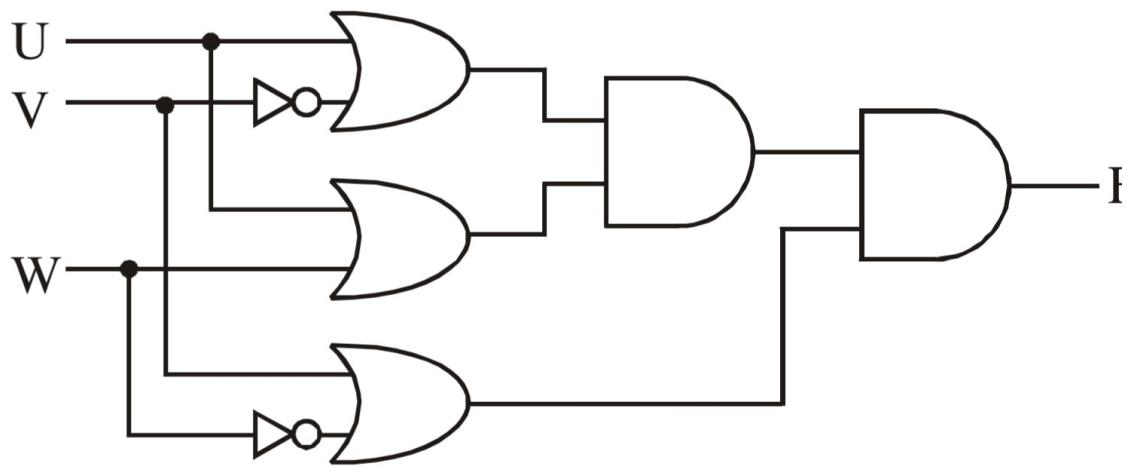

Figure 3.2:
7. Write the Boolean Expression for the result of the Logic Circuit as shown in Fig. 3.2